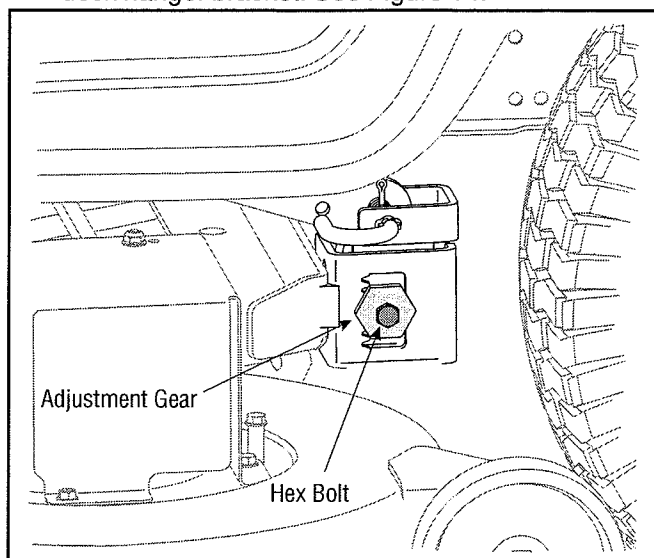

Figure 14
3. Loosen, but do NOT remove, the hex bolt on the left deck hanger bracket. See Figure 14.
4. Balance the deck by using a wrench to turn the adjustment gear (See Figure 14) up or down.